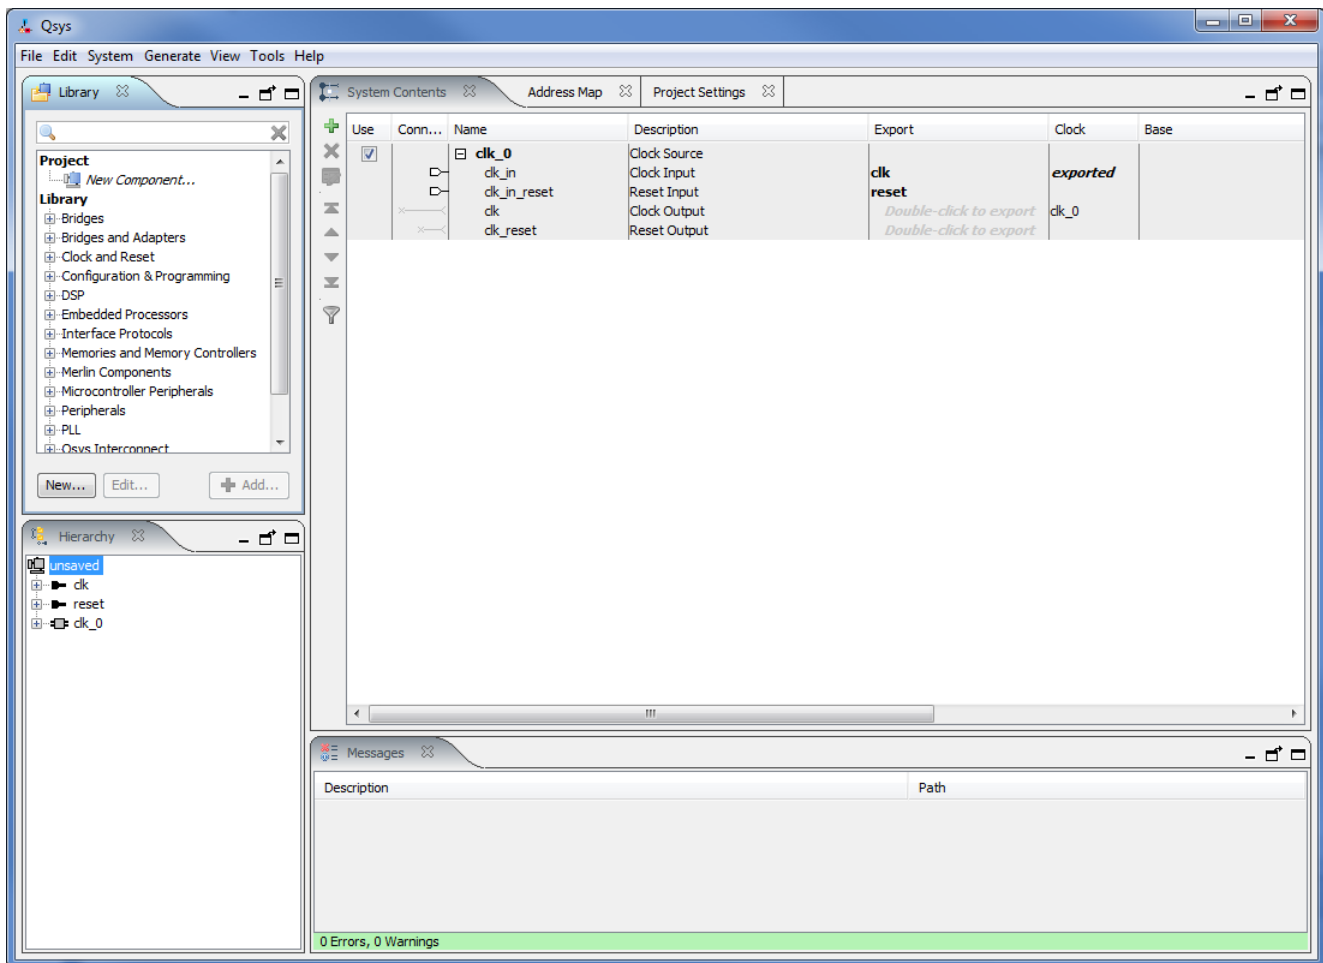
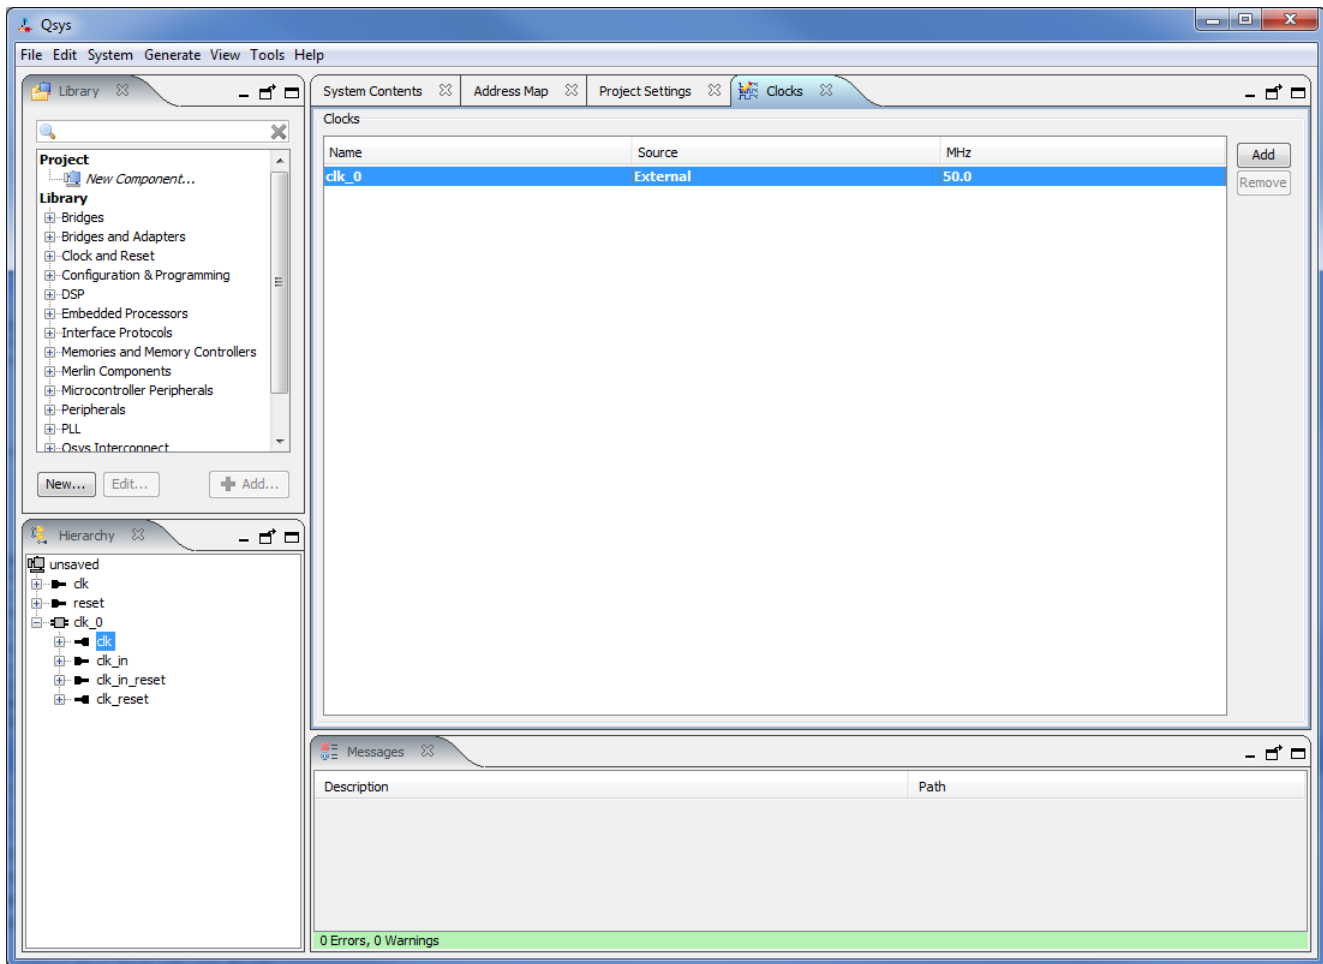

Figure 4. Create a new Nios II system.
Figure 5. The Clock Settings tab.
2. After completing the New Project Wizard to create the project, in the main Quartus II window select **Tools > Qsys**, which leads to the window in Figure 4. This is the System Contents tab of the Qsys tool, which is used to add components to the system and configure the selected components to meet the design requirements. The
- The hardware system that will be generated using the Qsys tool runs under the control of a clock. For this tutorial we will make use of the 50-MHz clock that is provided on the DE2-115 board. In Figure 4 select View > Clocks to bring the Clocks tab to the foreground, as illustrated in Figure 5. Here, it is possible to specify the names and frequency of clock signals used in the project. If not already included in this tab, specify a clock named *clk\_0* with the source designated as **External** and the frequency set to 50.0 MHz. The settings are made by clicking in each of the three columns: Name, Source and MHz.